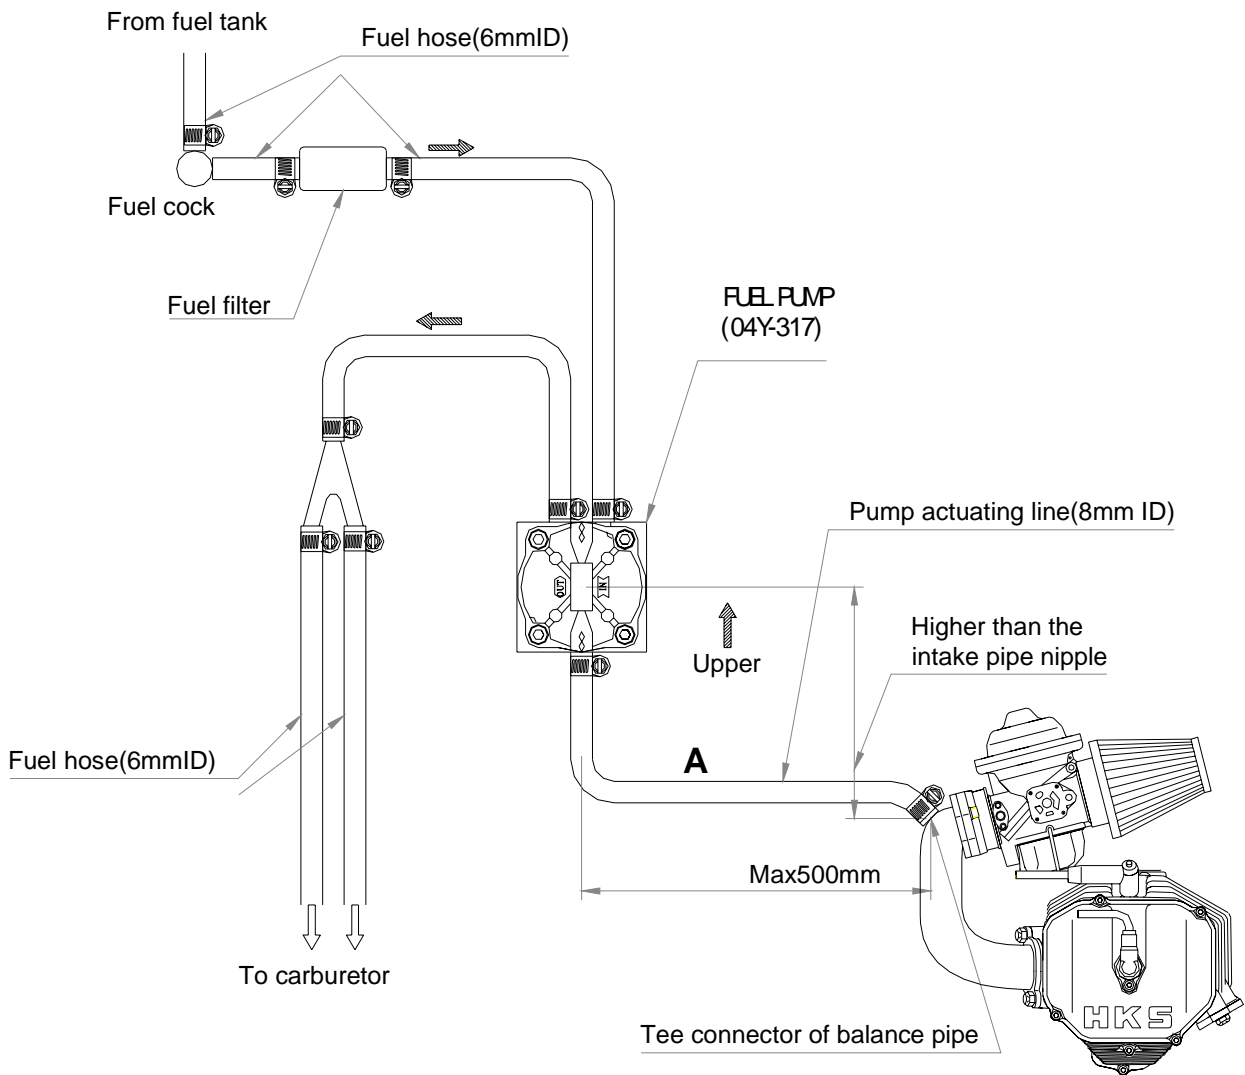

Fig.5 Fuel System Diagram
Fuel is supplied to the two carburetors by the fuel pump. The intake pulse pressure from the balance pipe actuates this pump pneumatically. 'A' in Fig.5 shows the actuating (pulse) line for this purpose.
Please pay attention to the following for the fuel pump installation (Refer to Fig.5).
- Mount the pump so that the actuating line nipple is downwards as in figure 5.
Follow Fig.5 for proper fuel line connections.
- Fit a fuel filter between the fuel shut-off valve and the fuel pump (See Fig.5).